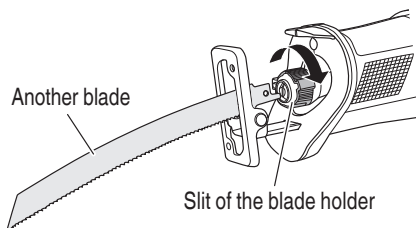

Fig. 10
- (1) If a part of the broken saw blade is sticking out of the slit of the blade holder, pull out the protruding part and take the blade out.
(2) If the broken saw blade is hidden inside the slit, hook the broken blade using a tip of another saw blade and take it out. (Fig. 10)